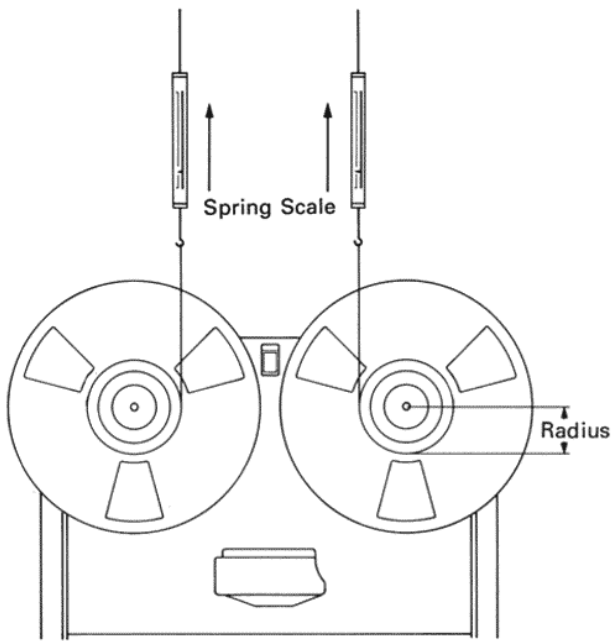

Figure 5-2. Brake Torque Measurement
2. Refer to Figure 5-2. Connect string to reel hub and wind clockwise several times around the reel hub as shown. Then, attach a spring scale to the string.
1. Loosen screw "C" shown in Figure 5-2 and adjust the spring hook position.